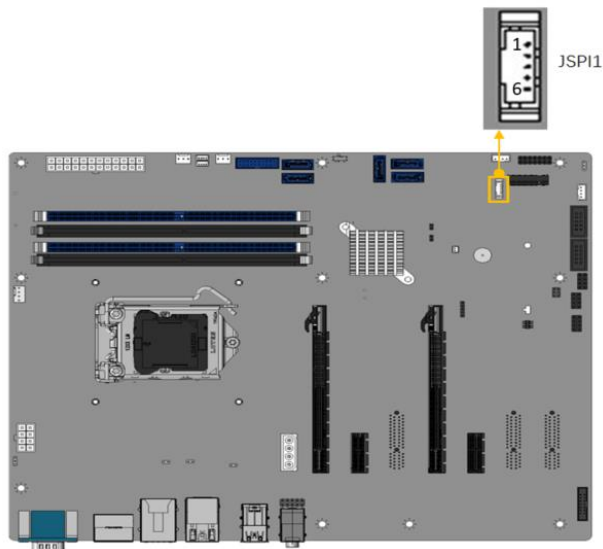

Figure 3-27: Flash SPI ROM Connector Location
- CN Location:** See Figure 3-27